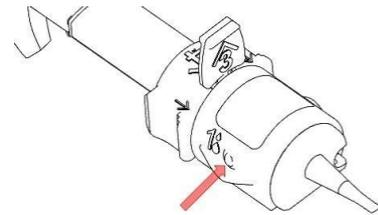

Fig. 1
3. Fully introduce the cannula (23-27G) of a syringe filled with viscoelastic material into the small aperture indicated with '1' (Fig. 1), maintaining a slight pressure on the cannula tip. **Inject the viscoelastic solution through the aperture. The injected quantity of visco is sufficient as soon as the IOL optic is covered by the viscoelastic solution.**